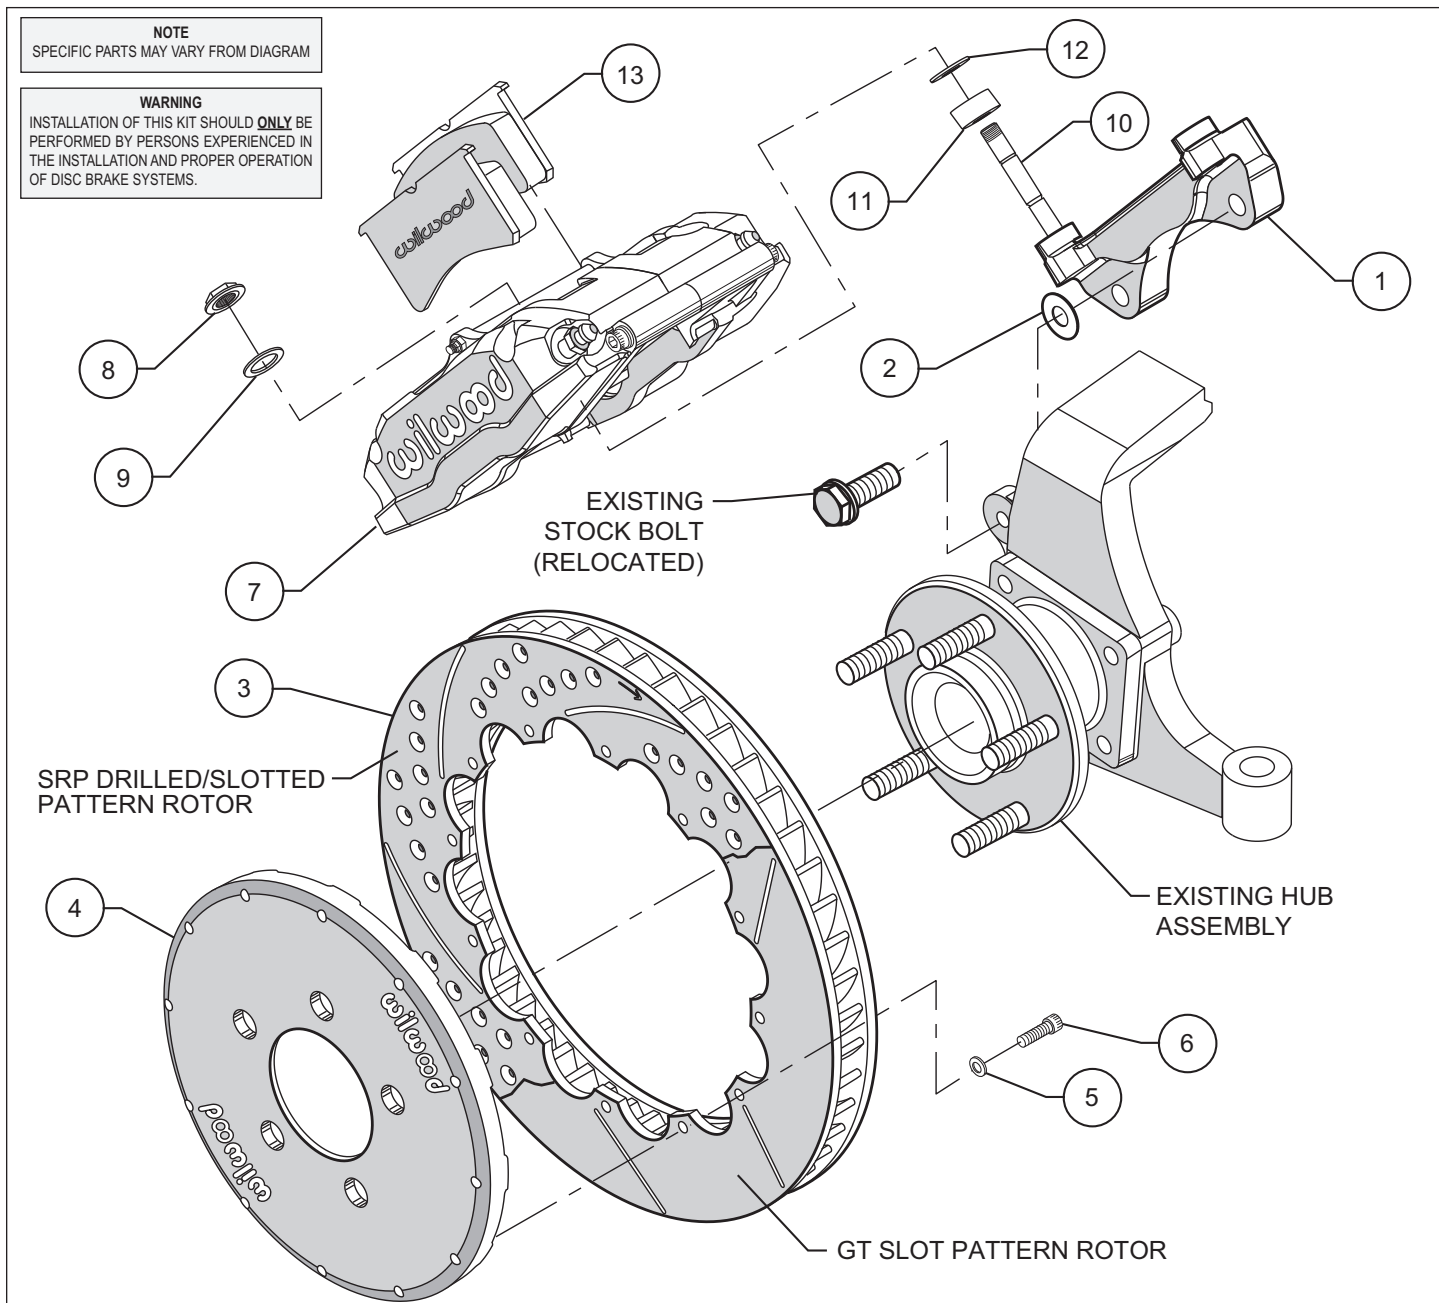
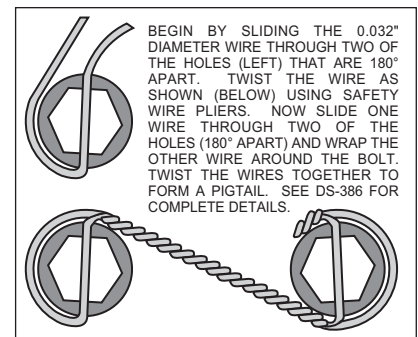

Figure 1. Typical Installation Configuration
Figure 3. Safety Wire Diagram
- The caliper mount bracket assembly (1) should be installed first with clean, dry threads on the mounting bolts. Install the bracket using the original caliper mount bolts. The bolts will now pass through the spindle from the opposite direction that they were removed (see figure 1). The bracket must tighten squarely against the inboard side of the caliper mount bosses on the spindle body. Inspect for interference from casting irregularities, machining ridges, burrs, etc. Use one thin shim (2) between the bracket and spindle during initial trial fitting. Later, after the caliper, pad, and rotor alignment have been checked, and any necessary shims have been put in place, the mount bolts should be coated with red *Loctite*® 271 and torqued to 65 ft-lbs.
- Assemble the rotor (3) to the hat (4) with the bolts (6) and washers (5) provided in the configuration pictured in figure 1. Be sure all bolts thread in smoothly and are snug. Then, torque all bolts in an alternating sequence to 85 **in-lbs**. Safety wire bolts (6) using standard 0.032 inch diameter stainless steel safety wire as shown in Figure 3. Please refer to Wilwood's data sheet DS-386 (available at [www.wilwood.com/pdf/ds386.pdf](http://www.wilwood.com/pdf/ds386.pdf)) for complete safety wire installation instructions.
- NOTE:** Please reference the caution statement at the beginning of the assembly instructions. Install one spacer (11) and one shim (12) over each stud (10) on the radial mount bracket. Slide the caliper (7) in place over the studs and rotors and install the washer (9) and lock nut (8) to hold the caliper in place. The caliper bleed screws should be pointing up. Snug the lock nuts (8) and check that the rotor (3) is centered in the caliper (7). Add or subtract .035" shims (2) as necessary between the mount bracket and the spindle to center the caliper.